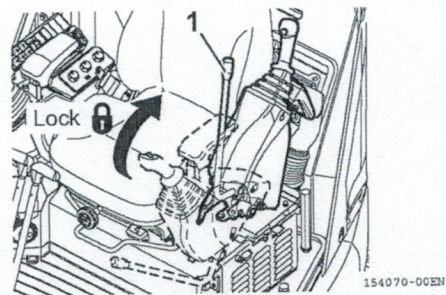

Fig. 3-17
1. Check that the lock lever (Fig. 3-17, 1) is in the lock position.
When the lock lever (Fig. 3-17, 1) is in the unlock position, the engine cannot be started. To start the engine, ensure to set the lock lever (Fig. 3-17, 1) to the lock position.